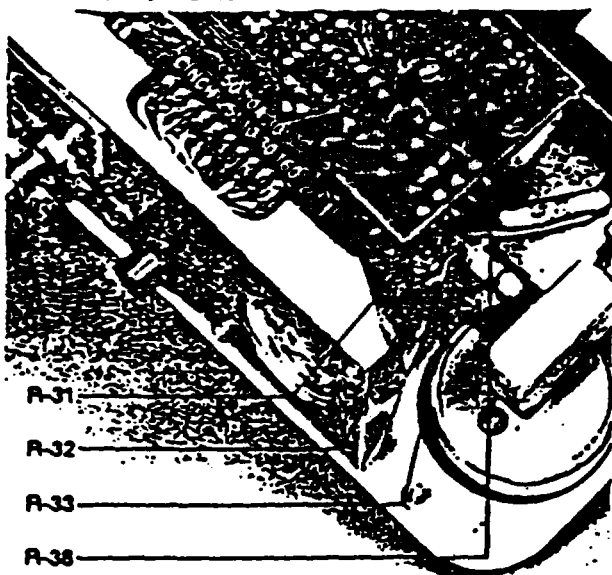

FIGURE 4-1. LOCATION OF ELECTRONIC ADJUSTMENTS
Internal electronic adjustments are provided to calibrate and align the electronic circuits. There are four (4) such adjustments all located on the electronics board. One adjustment potentiometer, R-38, is used to set the power supply voltage and is a one-time factory adjustment. The remaining three adjustments, R-31, R-32 and R-33 are used for setting the electronic amplifier gain for each of the three (3) calibrate ranges. Access to the adjustments is accomplished by removing the instrument from its case. Figure 4-1 indicates the location of the adjustments.
- Introduce a methane sample of a known concentration (near 100 ppm) and adjust trimpot R-32 on circuit board (see Figure 4-1 for location) so that meter reads equivalent to the known sample.
- Place CALIBRATE Switch in X1 position and, using trimpot R-31 on circuit board, adjust meter reading to 4 ppm. (See Figure 4-1)